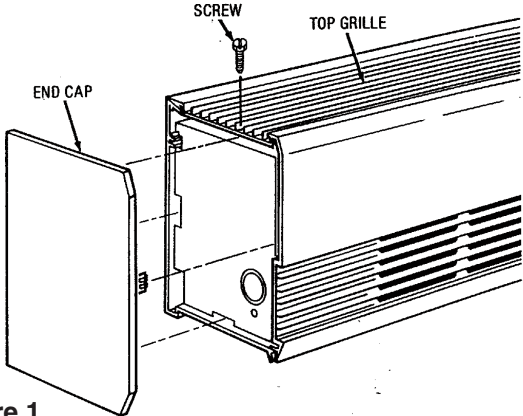

Figure 1
1. Push end cap into end of heater until it is flush (Figure 1).